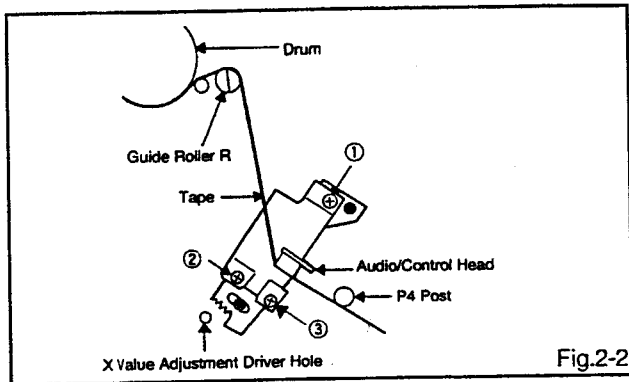

Fig.2-2
2. Confirm that there is no crease on the tape between the P4 post and guide roller (R) and the tape is running smoothly. (It is absolutely impossible to get satisfactory sound if the tape is distorted between the A/C head and P4 post.)
3. If the tape still does not run smoothly, turn the screw ① and adjust the tilt of the A/C head. (Refer to Fig. 2-2)
2. Turn the screw ② slowly to change the azimuth of the A/C head. Adjust the height so that the audio output becomes maximum. (Refer to Fig. 2-2)
3. Adjust the screw ③, (Refer to Fig. 2-2) until the height of the A/C head reaches the position against the tape as shown in Fig. 2-3.
4. When the control head height is not fit. (When you must turn the screw more than 45 degrees), Turn all of the screws ①, ② and ③ to the same degrees. Then confirm the angle of the audio/control head and adjust again.